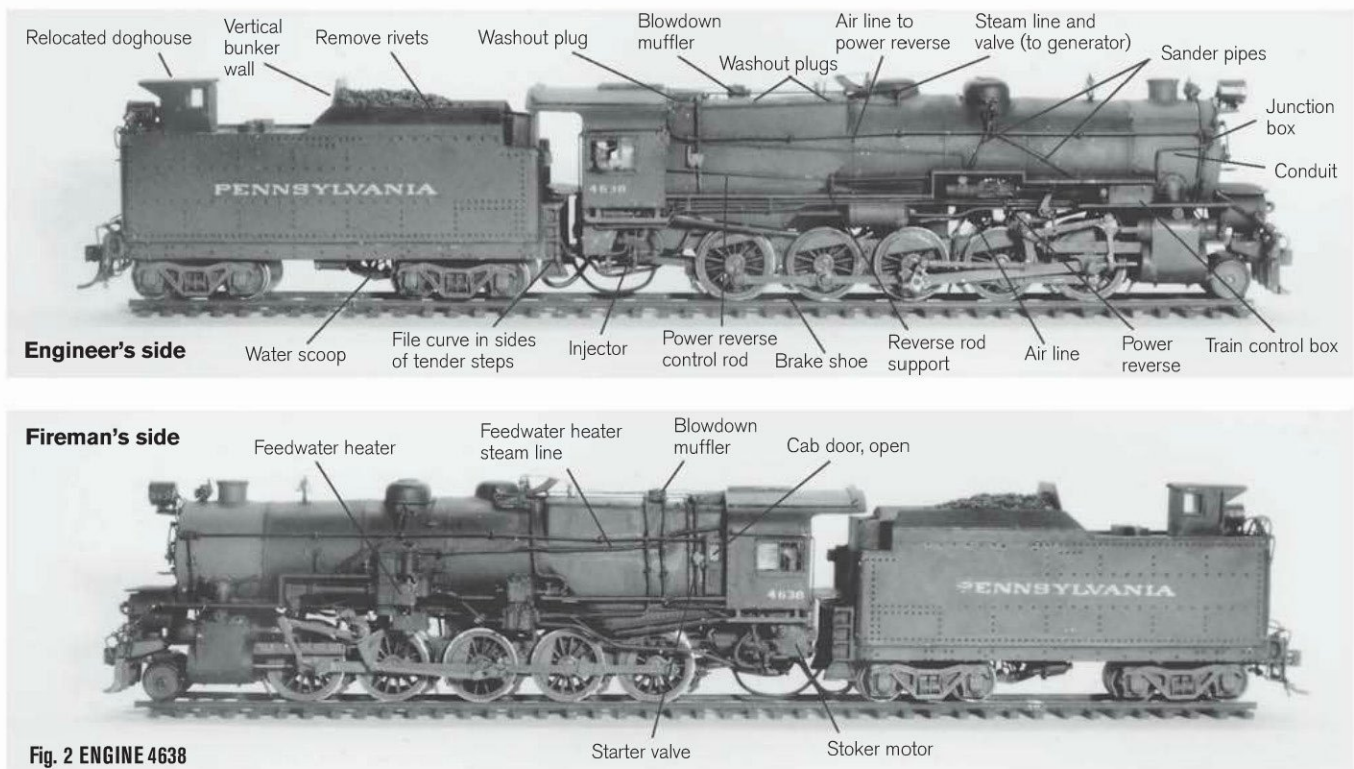

Fig. 2 ENGINE 4638
Author Frank Costanzi detailed two versions of the Pennsylvania RR's class I1 2-10-0 Decapods starting with Bowser's HO kits. Number 4510, shown above, has a long tender and air pumps on both sides of the engine. Frank's other engine appears in fig. 2.
the drivers, and fasten the brakes for the forward four pairs of drivers with cyanoacrylate adhesive (CA) (see fig. 2). Drill for and add the rear brakes.